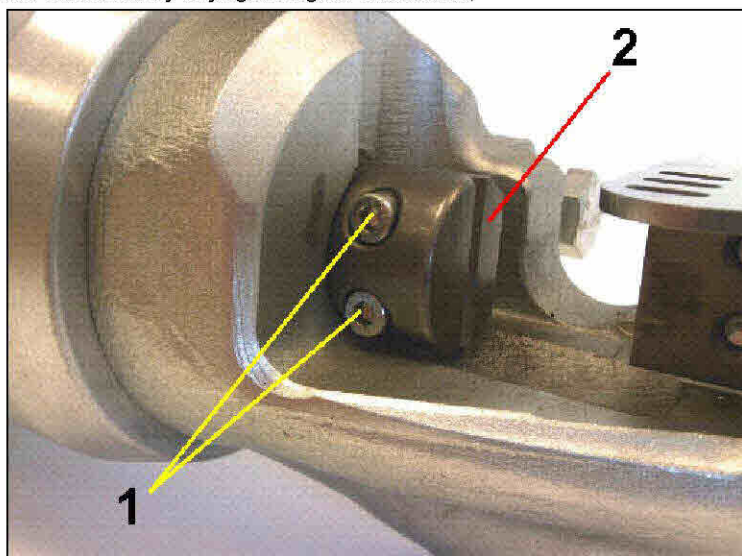

Fig. 6A
1. Remove the lock screws (ref. 1 fig. 6A);
2. Replace the mobile tool (ref. 2 in fig. 6A);